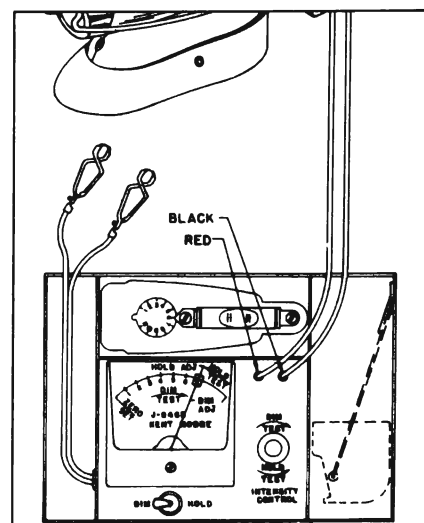

Figure 11-163—Tester J-8465
Tester J-8465, made by Kent-Moore, is required for checking or adjusting the Guide-Matic. The tester includes a vertical aiming device No. 6 and a sensitivity test lamp. See Figure 11-163.
(1) Set driver control to detent position.
(2) Install Tester Lamp. (Use Kent-Moore Model J-8465). See Figure 11-163.
(3) Start engine and operate at fast idle while making adjustments.
(4) Turn headlamps on and wait at least 5 minutes for amplifier unit to stabilize. Place foot switch in automatic position.
(5) Turn zero corrector on face of meter until meter pointer is on "ZERO SET" line. See Figure 11-163.
(6) Turn Tester "INTENSITY CONTROL" counterclockwise.
(7) Connect battery leads of Guide-Matic tester to battery terminals.
(1) Rotate tester "INTENSITY CONTROL" completely counterclockwise.
(2) Turn "DIM-HOLD" switch to "HOLD" position and then back to "DIM" position. Headlamp should be on upper beam.
(3) Turn tester "INTENSITY CONTROL" clockwise slowly just to point where headlamps switch to lower beam. The meter pointer should now read in the black "DIM ADJ." range on the meter scale. See Figure 11-163. If not, proceed to the hold and dim sensitivity adjustments.
(1) Turn "INTENSITY CONTROL" all the way clockwise.
(2) Turn "DIM-HOLD" switch to "DIM" position and back to "HOLD" position to obtain a lower beam.
(3) Slowly turn "INTENSITY CONTROL" counterclockwise just to the point where headlamps switch to upper beam. The meter pointer should now read in the green "HOLD ADJ." range on the meter scale. See Figure 11-163. If not, proceed to the hold and dim sensitivity adjustments.
(5) Adjust "INTENSITY CONTROL" slowly counterclockwise until meter pointer is on "HOLD ADJ." line. See Figure 11-163.
(6) Turn amplifier hold control slowly counterclockwise just to